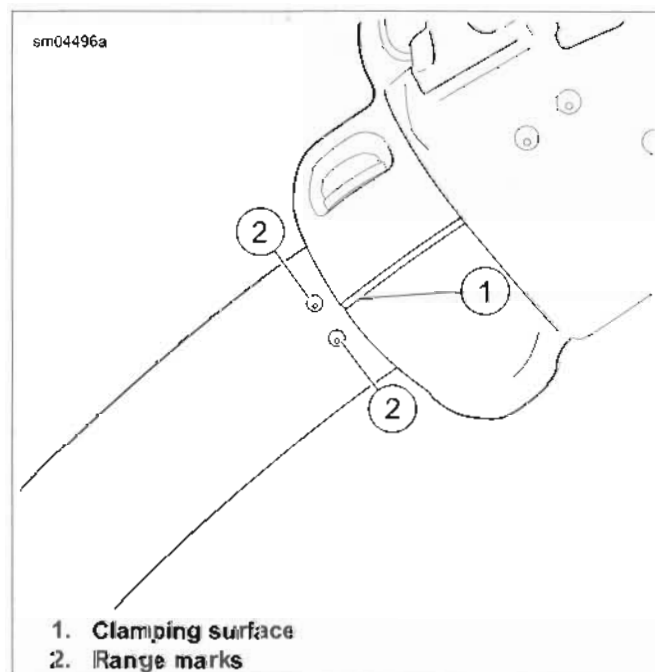

Figure 7-118. Right Hand Control Assembly to Handlebar Alignment
See Figure 7-118. When installing right handlebar switch assembly for motorcycles with internally wired handlebars, make sure the clamping surface (1) stays within the range marks (2) or damage to the wires will occur.